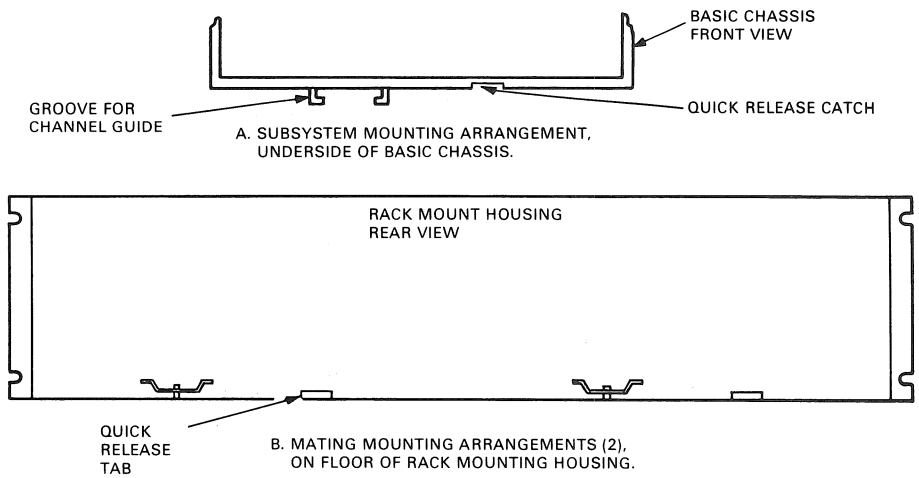

Figure 4-1 Removal from Rack Mount Housing
3. Press the quick-release tab on the rear of the rack mount unit and pull the basic chassis from the rack (see Figure 4-1).